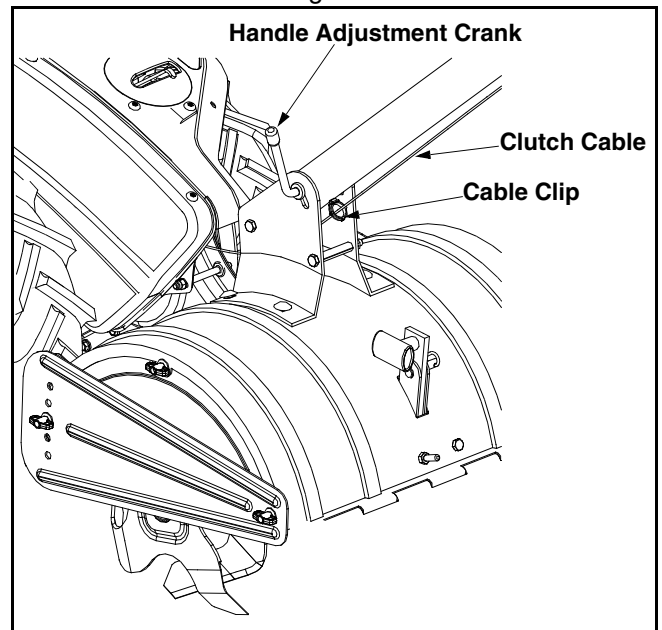

Figure 6
- Route the clutch cable underneath the handle and through the cable clip. Be careful not to bend or kink the cable. See Figure 6.